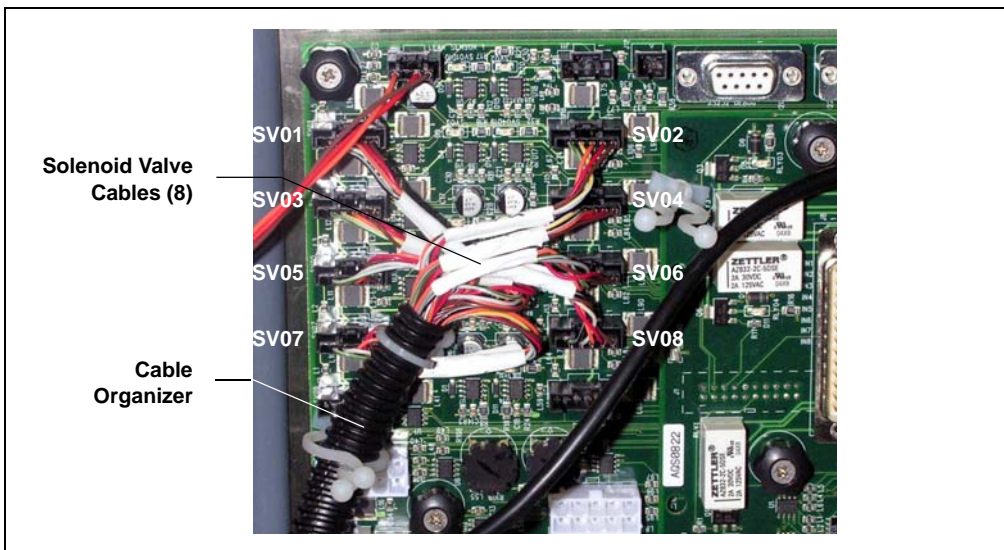

Figure 10-11. SP Electronics Board: Solenoid Valve Cable Connections
3. Follow the instructions in Section 10.6 to access the SP electronics board. The solenoid valve cables are plugged into connectors on the top left corner of the board (see Figure 10-11).
4. A label on the valve mounting plate identifies the number of the valve (for example, the SS valve is **SV5**). Disconnect the valve cable from its corresponding connector on the board (see Figure 10-11). For example, if you are replacing an SS valve, disconnect the cable from connector **SV05** on the board.
11. Plug the valve connector into the SP electronics board (see Figure 10-11). Secure the cable in the cable organizer.